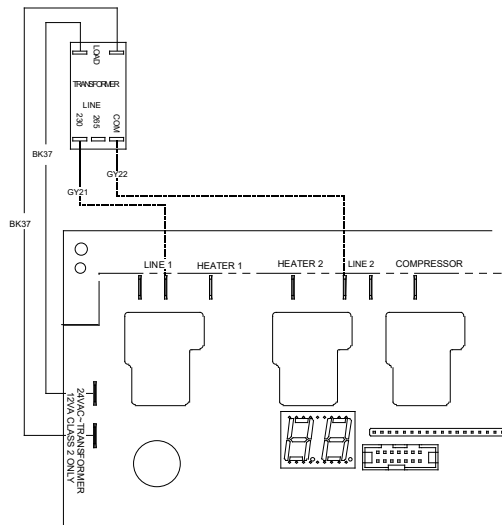

Figure 4
- Using the insulated terminals connect the two (2) Black wires from the Load terminals on the transformer to the "24VAC Transformer" terminals on the control board. See Figure 4.